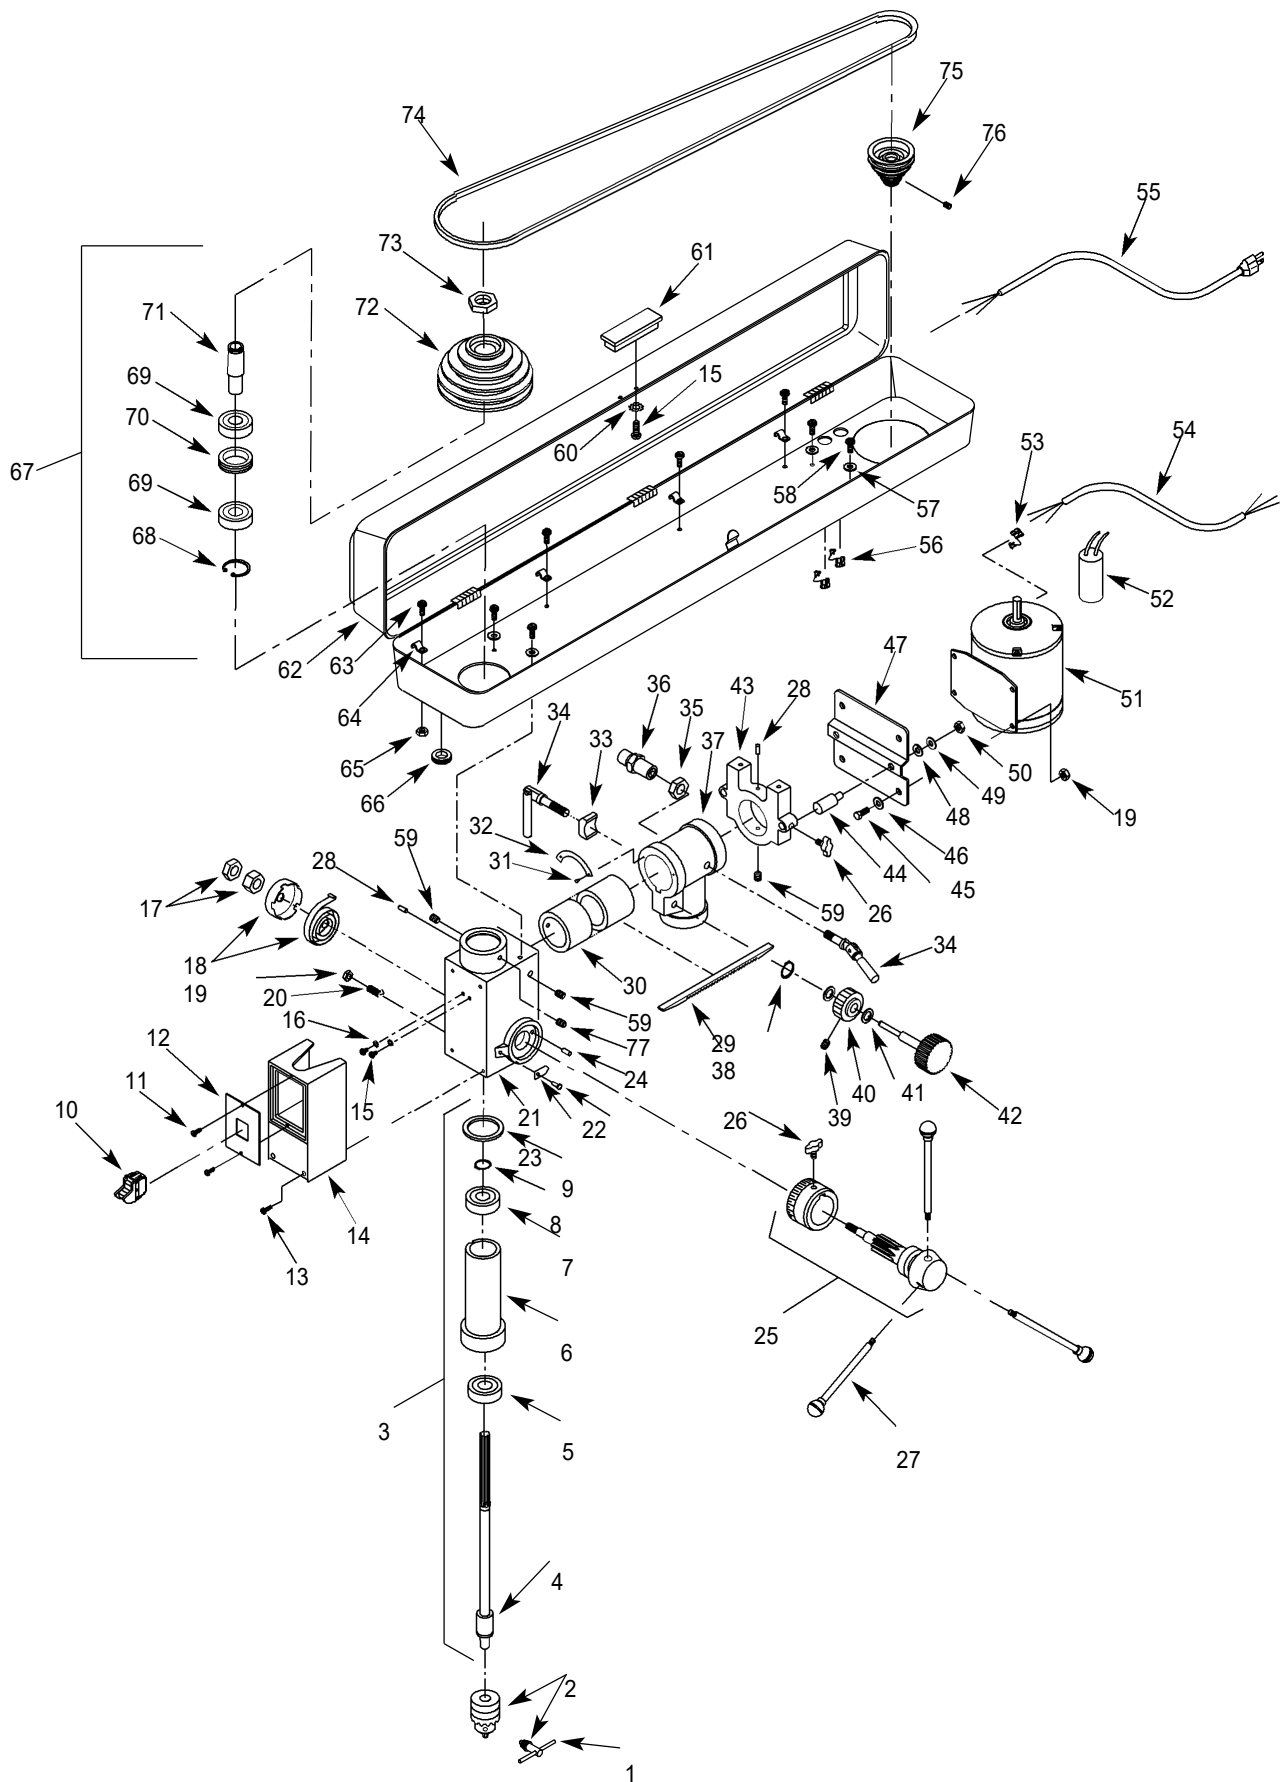

Figure 25 - Replacement Parts Illustration for Head
- Lower spindle assembly (Figure 25, Ref. No. 3) all the way down.
- Apply lubricant around the inside of the hole in the spindle pulley (Figure 25, Ref. No. 72).
- Apply lubricant to rack (teeth) on quill (Figure 25, Ref. No. 6) while extended below drill press head.